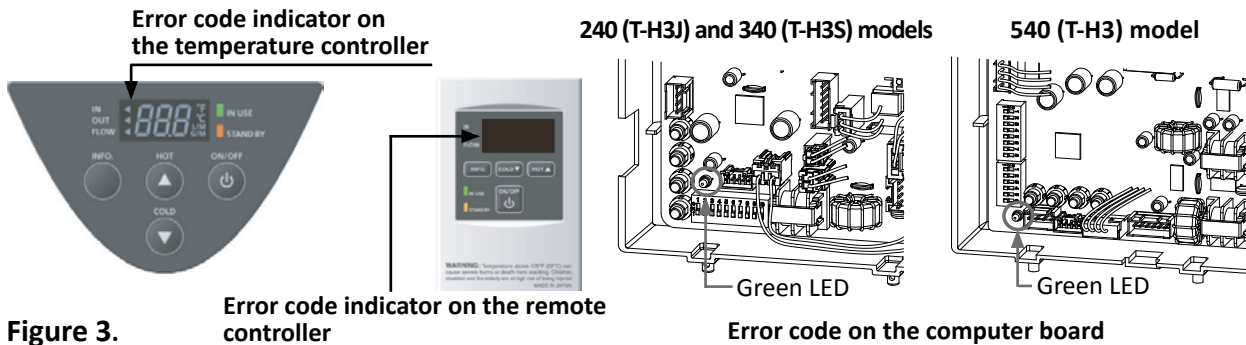

Figure 3.
Finally, check to see if the unit has an error code. The error code will be displayed on the temperature controller (or remote controller) and by flash codes on the green LED on the computer board. See Figure 3, page 11. See also the error code chart on page 11.
- If the unit is in a recirculation system, the return water temperature may be too close to the set point temperature to activate the water heater. You can verify the incoming water temperature by using the INFO button on the front of the unit. Simply press the INFO button until the arrow on the display points toward IN. Refer to “error code indicator” in Figure 3 (p. 11).
All units have self-diagnostics. If there is a problem with the unit, a numerical error code will display on the temperature controller of indoor models or on the TM-RE42 Remote Controller (if installed). Installation related problems may also produce an error code. If the remote/temperature controllers are not working, the green LED on the computer board will flash a code pattern. (The green LED is located beside the DIP switches as shown in Figure 3)